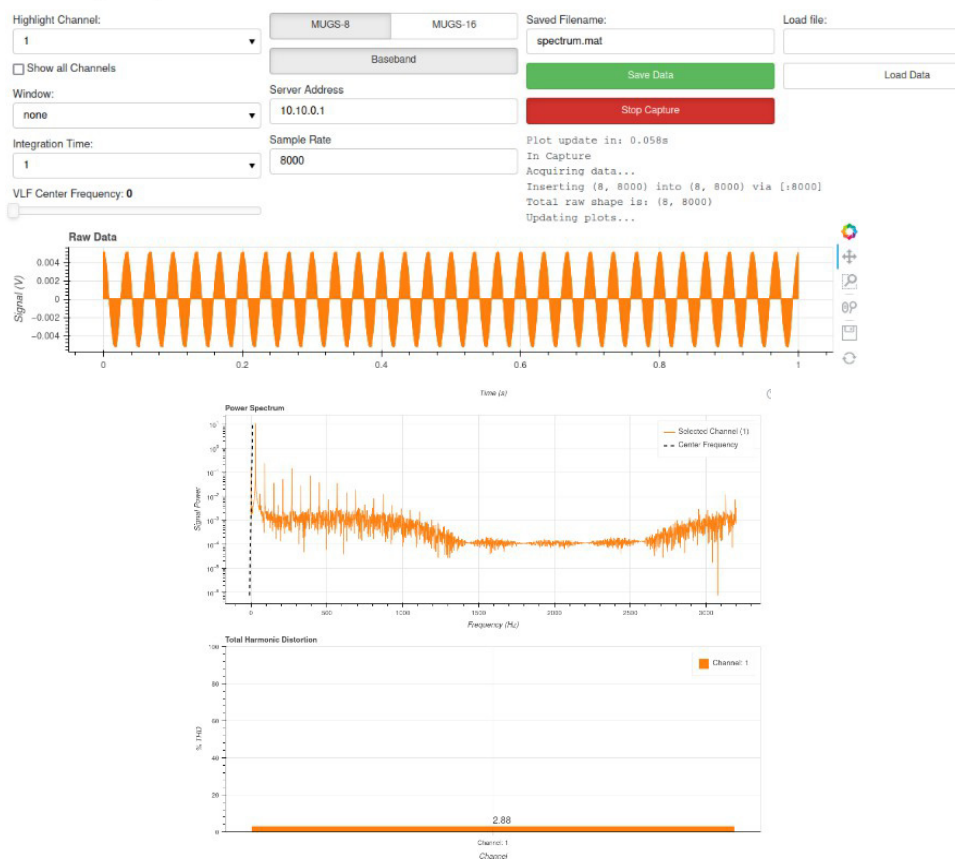

Figure 32. The time-domain raw data can be processed (top) to frequency-domain spectral data (bottom).
3.8 Fast Fourier Transform (FFT) (MUGS Exclusive) (8)
From the Fast Fourier Transform (FFT) (MUGS Exclusive) (8) page, users can livestream FFT plots for all data channels, either individually or concurrently. The top of the page includes several options for users to select the size of the FFT, potential windowing, and whether to save or load data. When the user selects the “Start Capture Button,” the three plots (Figure 32)—showing the raw data signal, the FFT, and an estimate of the total harmonic distortion—will begin updating according to the integration time selected. Options for integration time are provided in seconds and range in powers of two from 1 to 128 s. Figure 32 shows an example of a single-channel, live-FFT plot.